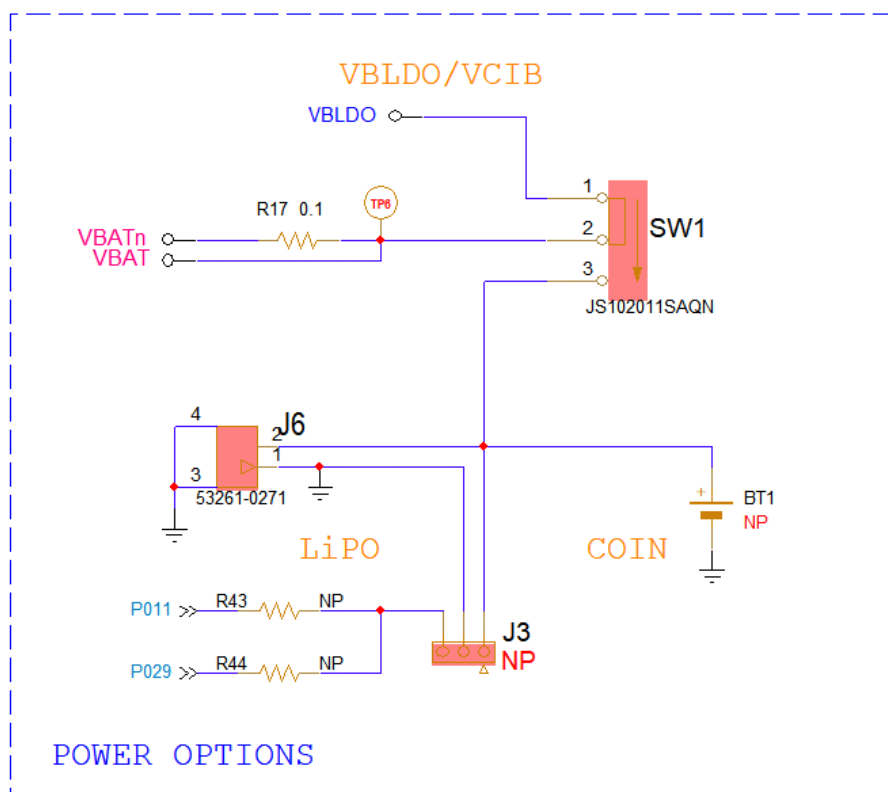

Figure 51: PRO-Daughterboard Power options
- Battery/Power connectors (shown in Figure 51):